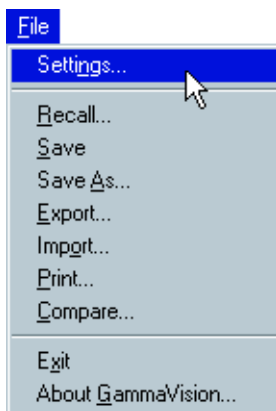
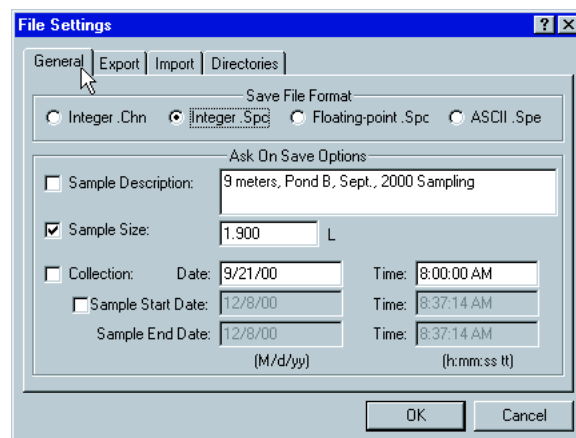

Fig. 41
Fig. 42
2.17 To instruct GammaVision to ask for the **Sample Volume** when the user **Saves** the spectrum — such as at the end of the acquisition, choose **File, Settings** (Fig. 41) and check the **Sample Size** checkbox under **Ask On Save Options** (Fig. 42).